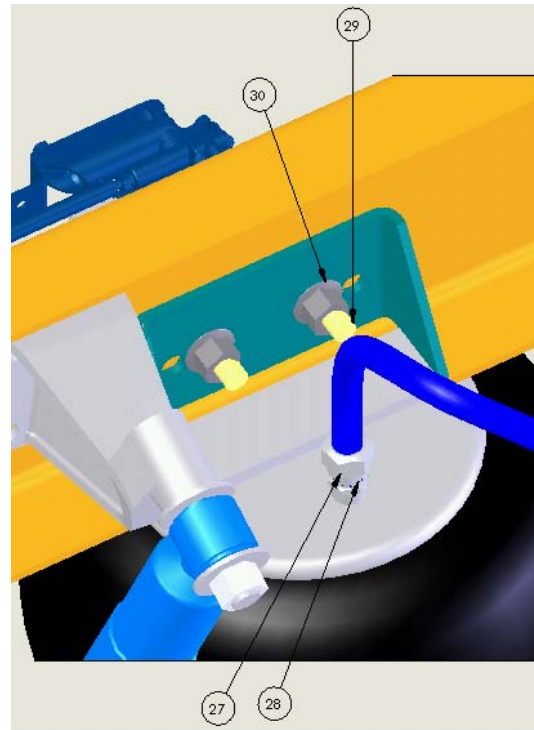

**Figure 8**
**13. Raise spring beam (Item 4 or 5) to disengage locating dowel then slide spring beam out of spring hanger. (Figure 8)**